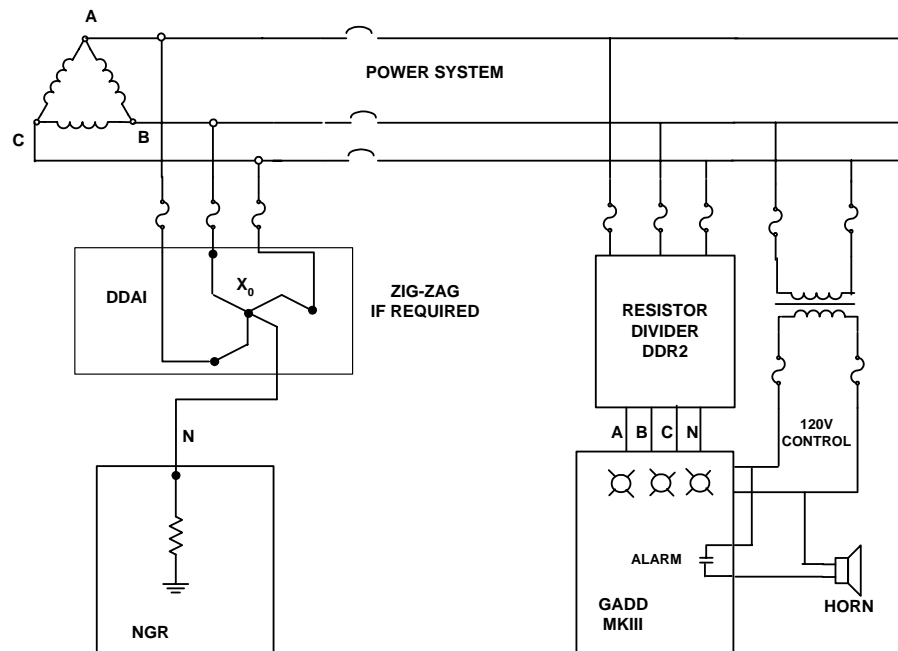

Figure 2 Typical Wiring schematic for GADD MKIII with delta system shown
- 8.5 Protective fuses must be used to provide over-current protection in the GADD MKIII, DDR2 or DDAI devices as shown in Figure 2. For GADD MKIII, 1A slo-blow 125V rated fuses are recommended.
- 8.5 Detailed user connection diagrams, Figures 2 and 3, can be found in the Appendix.
- FIG. 2 Typical Wiring schematic for GADD MKIII